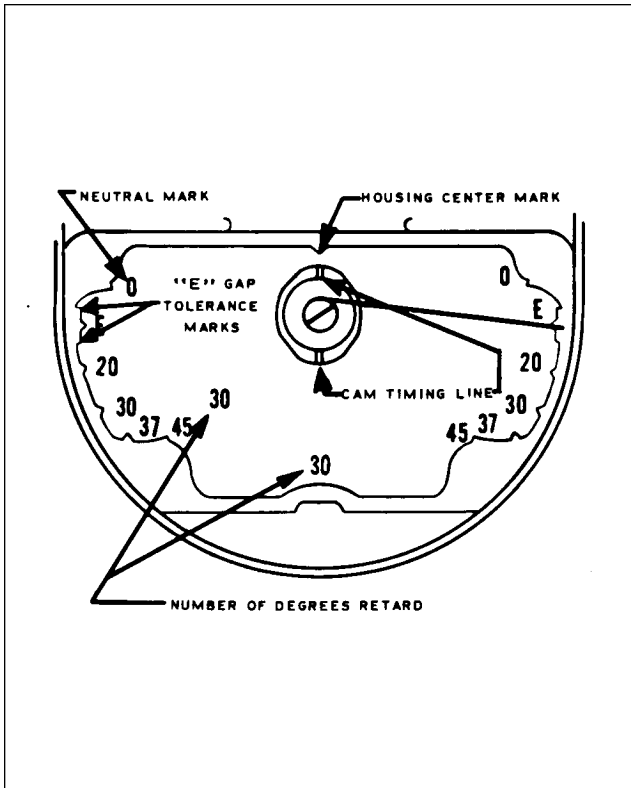

Figure 8-15. Cast-in Timing Marks
- b. The internal timing can be checked without a timing kit using the cast in marks in the breaker compartment. These marks indicate "E" gap and limits (refer to Figure 8-15). The point in the center of the "E" gap boss indicates the exact "E" gap position. The width of the boss on either side of the point is the allowable tolerance of $\pm 4^\circ$. In addition to these marks, the cam has an indented line across its end. When the indented line is aligned with the mark at the top of the breaker housing, the rotating magnet is in its "E" gap position. Check the timing using the following procedure:
2. Turn rotating magnet in direction of rotation until painted chamfered tooth of distributor gear is just becoming visible in timing window. Continue turning rotating magnet until line on end of cam is aligned with mark at top of breaker housing. (Refer to Figure 8-15.) Tighten adjusting knob of the holding tool to hold rotating magnet.